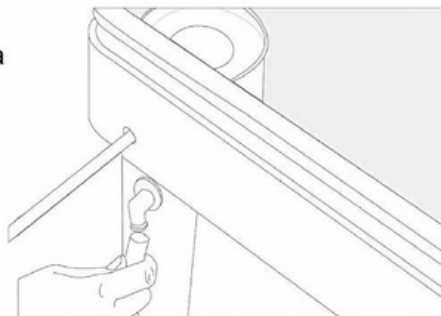

Figure 19
- Finally, use 1/2" I.D. tubing to connect the drain bard fitting on the brine tank to a floor drain as shown in Figure 19. NOTE: This is not necessary as the 2310 assembly is designed to prevent an overflow situation, , but is a good and recommended precaution for a proper installation.